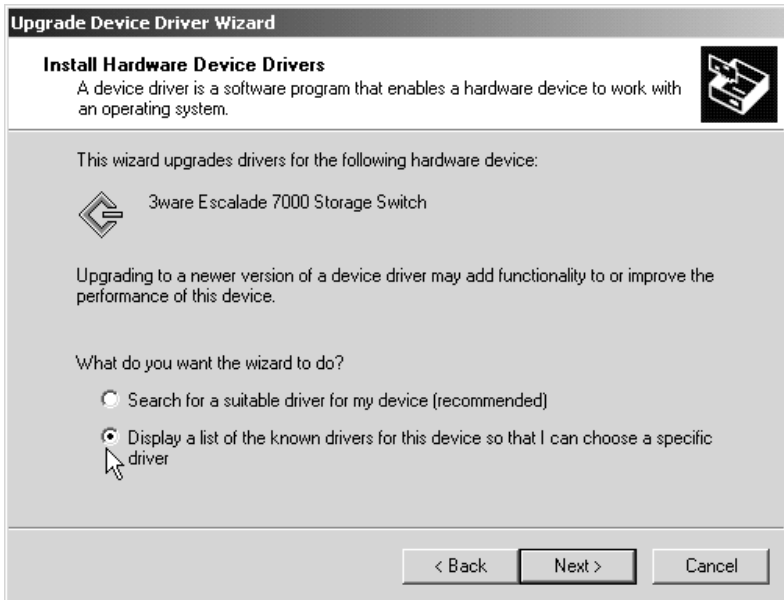

Figure 41. Update/Install device driver
- 1 Once you reach the **Update Device Driver** screen display shown in Figure 41, ensure that you select “Display a list of known drivers for this device, so that I can choose a specific driver.” Afterwards, press **Next** and follow the instructions.